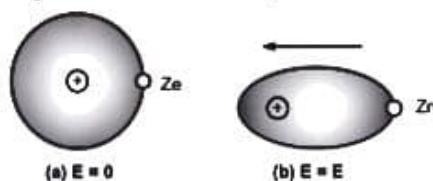

Fig. 1.16 : Electronic polarization
- The Fig. 1.16 shows electronic polarization.